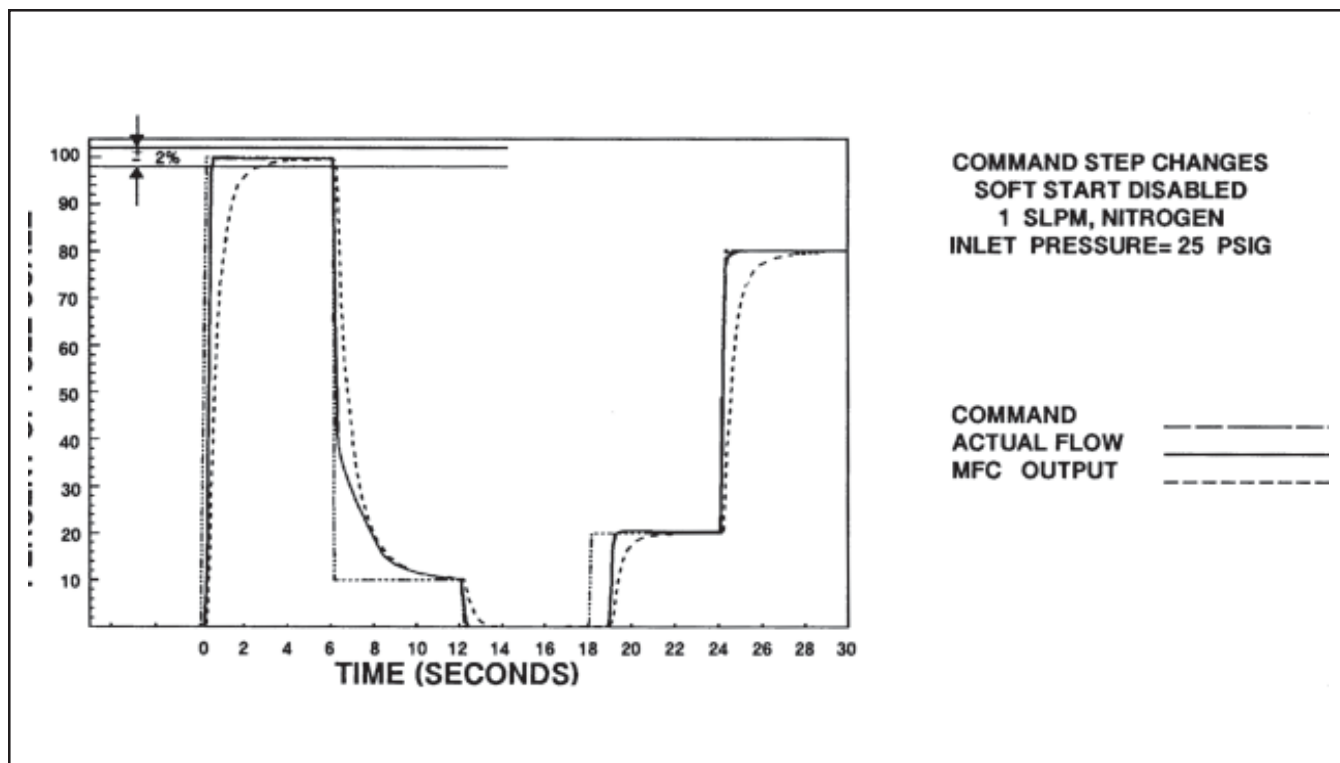

Figure 1-1 Command Steps, Soft Start Disabled
**Fast Response Control** permits rapid gas settling times with little or no over/undershoot. (Refer to Figure 1-1.)